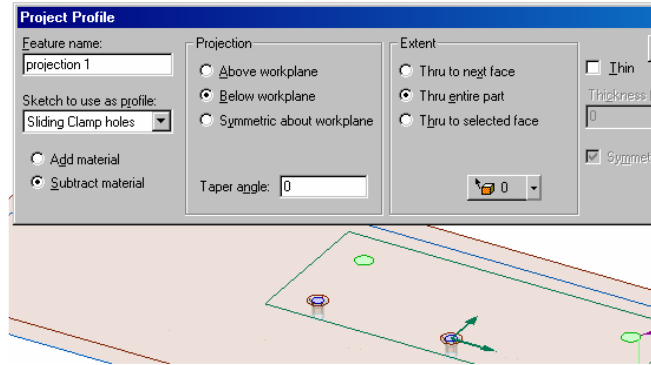

Figure 14. Project hole profile through base.
23. Use Project Profile to subtract material below the workplane through the entire part as in figure 14.